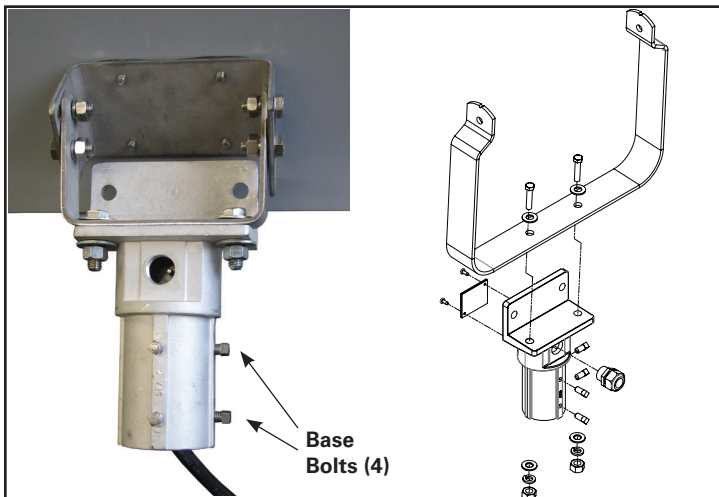

Figure 2 - SFA6
- Using the bolts, nuts, and lock washers provided, securely fasten the floodlight yoke to the flange on the SFA6 slipfitter. Refer to Figure 2. Torque the bolts to 45 lbs.-ft.